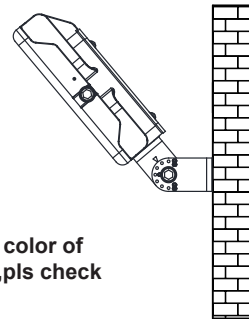

figure 2.5
Step 3: Loosen the screws, adjust the lamp angles as per actual demands and then tighten the screws. (figure 2.5)